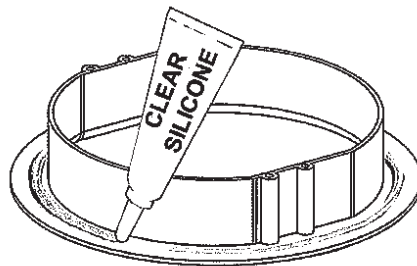

FIGURE 2.33 - Silicone Bead
- STEP 1:** Add a 1/4" continuous bead of clear silicone to the inside of each frame. Read and follow the manufacturers instructions for silicone application. See FIGURE 2.33